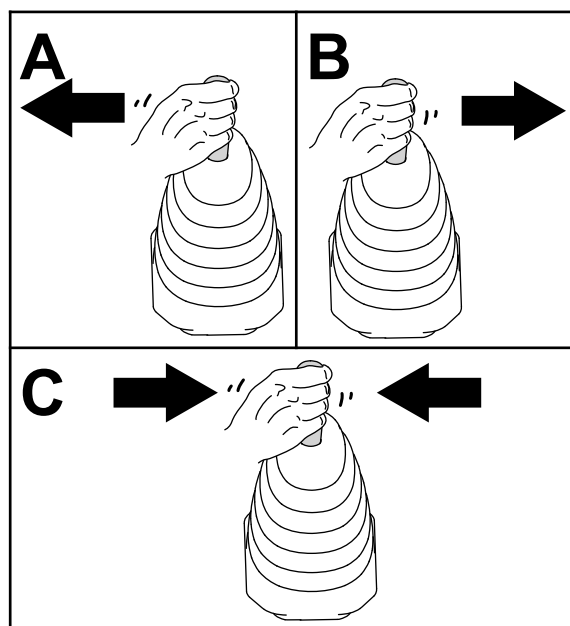

Figure 49
- Move the loader joystick to the left, right, and back to the NEUTRAL position to relieve pressure at the hydraulic couplers (Figure 49).